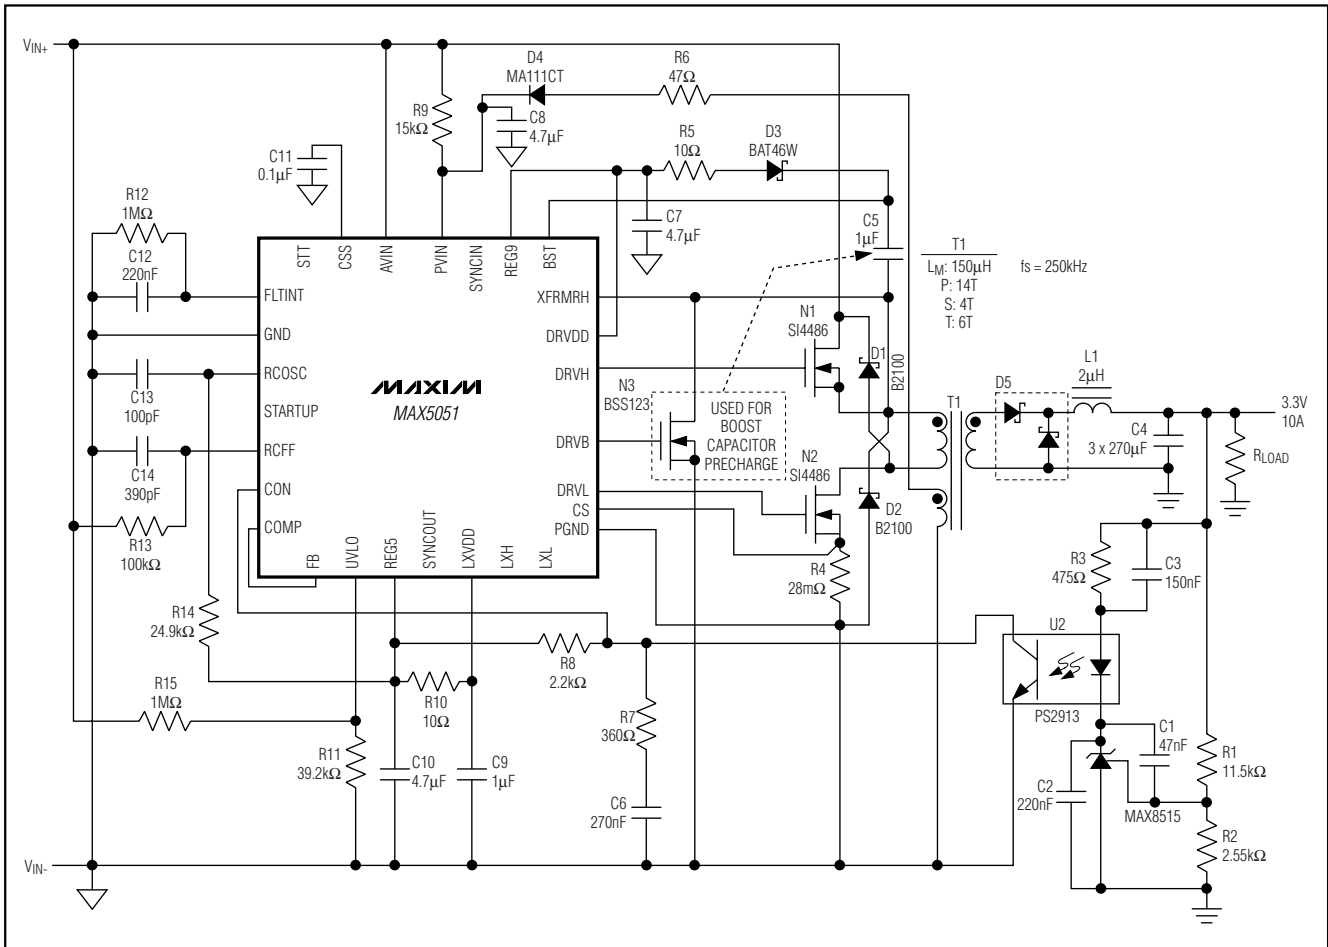

Figure 2. Typical Application Circuit
The two-switch power topology has the added benefit of recovering practically all magnetizing as well as the leakage energy stored in the parasitics of the isolation transformer. The lower clamped voltages on the primary power FETs allow for the use of low $R_{DS(ON)}$ devices. Figure 2 shows the schematic diagram of a 48V input 3.3V/10A output power supply built around the MAX5051.
If the charge stored on the boost capacitor is not adequately replenished then the gate-driver lockout for the high-side MOSFET is triggered, stopping the high side from switching. The low side continues switching, eventually recharging the capacitor, at which point the high side starts switching again. To prevent this behavior, use the boost capacitor's cycle-by-cycle charging circuit to prevent unwanted shutdowns of the high side (Figure 2). Connect the gate of a small high-voltage FET (with the same voltage rating or higher as the main FETs) to the DRVB output of the MAX5051. Connect the drain of this FET to XFRMRH, and connect the source to the primary ground. DRVB will briefly (300ns) turn this FET ON every cycle after the main PWM clock terminates. This allows the boost capacitor to be replenished under all conditions, even when switching stops completely. A suitable FET for this is BSS123 or equivalent (100V, 170mA rated). The boost-capacitor charge
The error amplifier in the MAX5051 has an uncommitted inverting input (FB) and output (COMP). Use this amplifier when secondary isolation is not required. COMP can then be directly connected to CON (the input of the PWM comparator). The noninverting input of the error amplifier is connected to the soft-start generator and is also available externally at CSS. A capacitor connected to CSS is slewed linearly during initial startup with the 70µA internal current source (see Figure 2). This provides a linearly increasing reference to the noninverting input of the error amplifier forcing the output voltage also to slew proportionally. This method of soft-start is superior to other methods because the loop is always
After coming out of standby and before initiating the soft-start, the MAX5051 turns on the low-side FET to charge up the boost capacitor. A voltage detector has been incorporated in the high-side driver that prevents the high-side switch from turning on with insufficient voltage. It is also used to indicate when the boost capacitor has been charged. Once the capacitor is charged, soft-start commences. If the duty cycle is low, the magnetizing energy in the transformer may be insufficient to keep the bootstrap capacitor charged. DRVb (see Figure 2 dotted lines) has been provided to drive a small external FET connected between XFRMRH and PGND, and is pulsed every cycle to keep the capacitor charged.